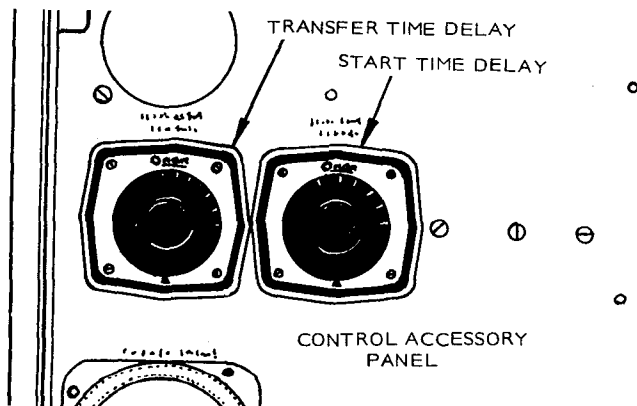

FIGURE 12. START AND TRANSFER TIME DELAY RELAYS
2. Turn the knob on the time delay clockwise to increase delay time, counterclockwise to decrease the delay time. See Figure 12.